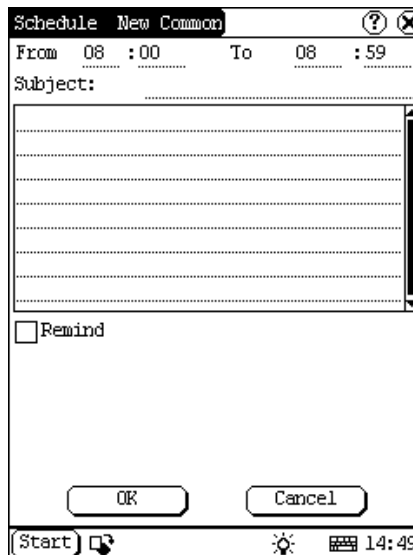

Figure 5-30
- 3) If the selected cycle is 'Daily', 'Weekly', 'Monthly' or 'Annual', you can input the repeat time in the textbox on the bottom of the interface. See Figure 5-30.